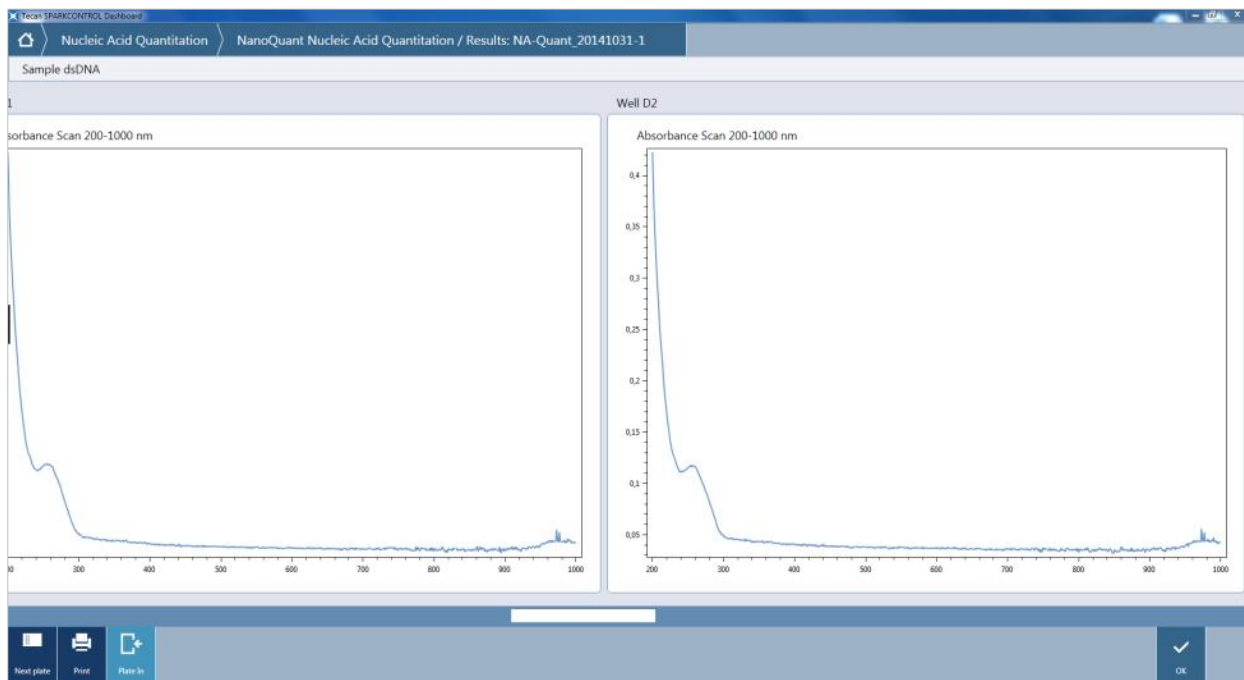

Figure 66: Absorbance scans in the Result window
- Absorbance Scan values according to the defined wavelength range. Use the slider to obtain all of the absorbance scans being measured (Figure 66: Absorbance scans in the Result window).